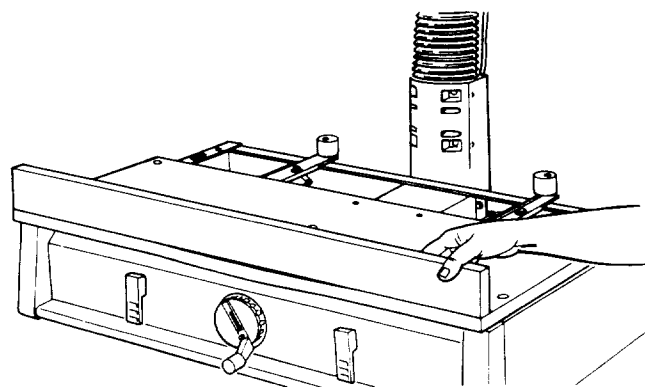

Fig. 58
22. If you see a gap larger than 1/32 inch, tighten the center *mounting screw* and/or the *leveling screws* until the gap is gone. Use a 1/8 inch Hex-L wrench to tighten the *leveling screws*. (Figure 58)